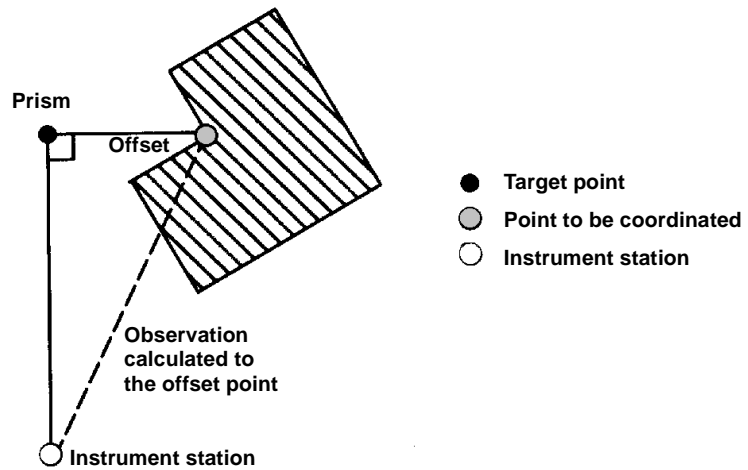

Figure 8-2: Horizontal/vertical angles and slope distance calculation
3. Once the fields and the measurement are complete, press <OK>. The SDR33 calculates the horizontal and vertical angles and slope distance to the target point and stores an observation record. The offset from the prism to the target point is assumed to be horizontal. A Note record (example shown below) is generated showing the original measurements and the offset distance and direction used in the calculation. See Figure 8-2.